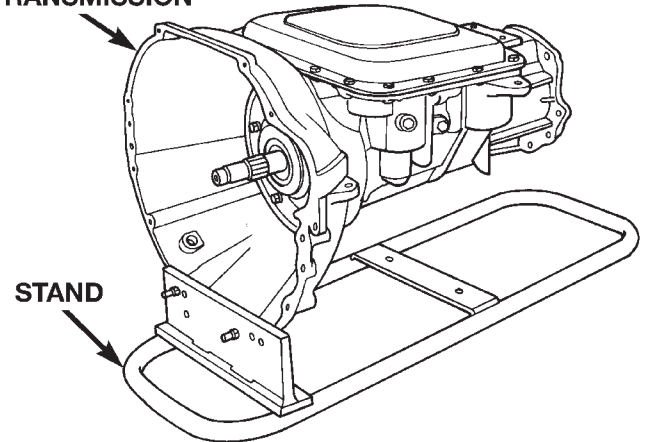
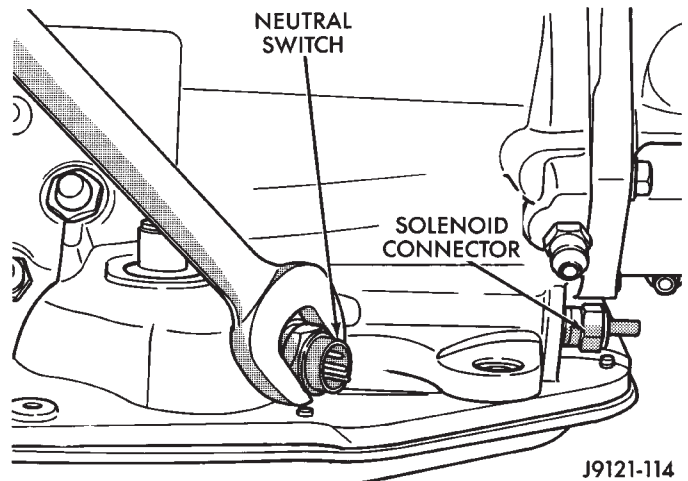
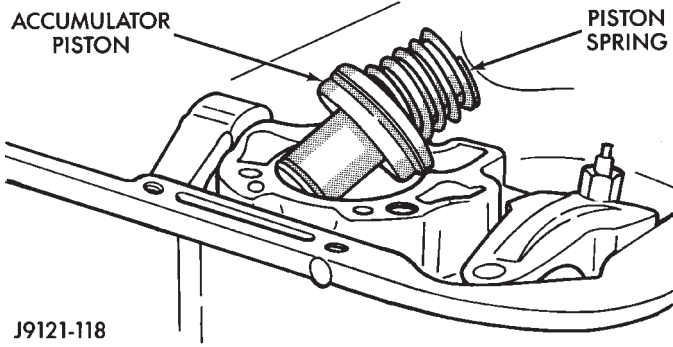

Fig. 73 Repair Stand
Fig. 74 Park/Neutral Position Switch
Fig. 75 Accumulator Piston And Spring
- (1) Remove transmission from vehicle.
- (2) Install a suitable tail shaft housing plug to avoid contaminating internal components with cleaning solvents.
- (3) Clean exterior of transmission with suitable solvent or pressure washer.
- (4) Remove torque converter from transmission.
- (5) Remove throttle and shift levers from valve body manual shaft and throttle lever shaft.
- (6) Mount transmission in repair stand C-3750-B or similar type stand (Fig. 73).
- (7) Remove extension housing.
- (8) Remove fluid pan.
- (9) Remove park/neutral position switch and seal (Fig. 74).
- (10) Remove valve body.
- (11) Remove accumulator spring and piston (Fig. 75).